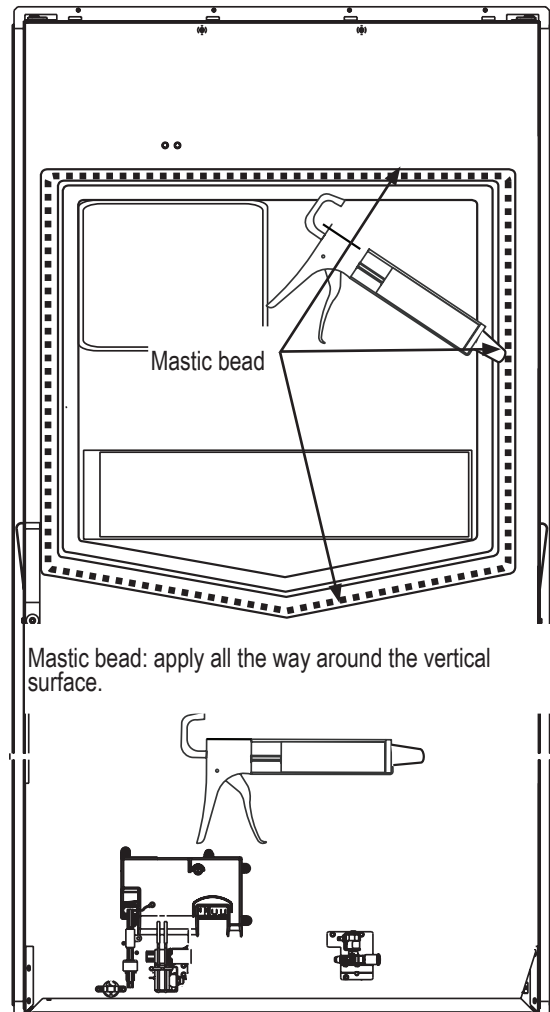

Figure 5. Applying mastic on cabinet opening.
2. Apply 3/4 inch wide x 1/2 inch thick bead of Thermal Mastic sealant on the four sides of the cabinet opening. See Figure 5.